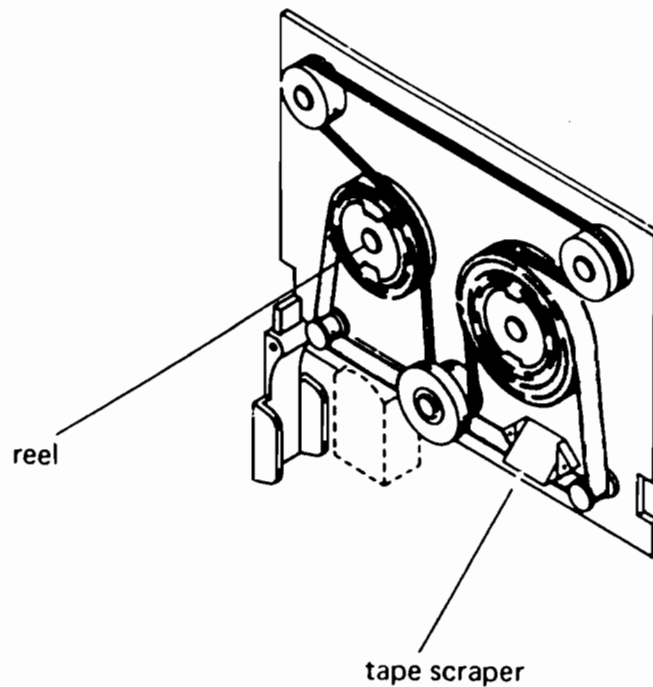

Figure 1-3. Tape Cartridge
If the tape unwinds completely from one of the reels, refer to Figure 1-3 and use the procedure below to rethread the tape.
2. Thread the tape around the guides as shown in Figure 1-3, making sure it passes through the tape scraper.